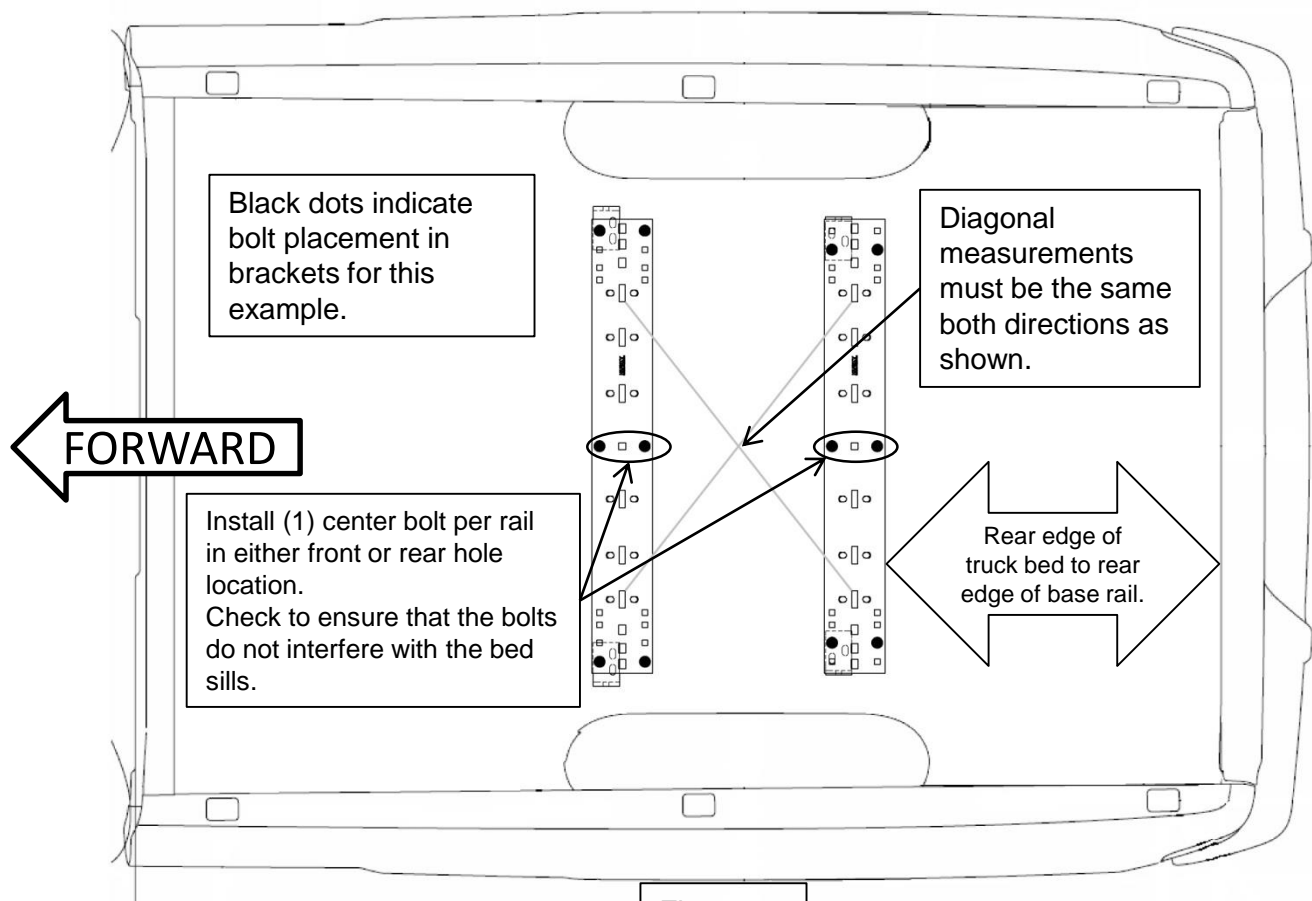

Figure 2
6. Measurements are given from Rear Edge of truck bed to rear edge of the base rail closest to the Rear Edge of truck for most vehicle applications (See Fig. 2).
7. Center hitch between fender wells and make sure rails are square. Adjust position of rails until both diagonal measurements are the same. This should allow installation of a gooseneck or other fifth wheels to these rails (See Fig. 2).
8. Drill 10 holes identified in Fig. 2. (Hole location will vary for individual vehicle applications.) Drill all holes with 3/16" drill and enlarge them with a 17/32" drill. Always use sharp drill bits. A 3/16" pilot hole will greatly speed drilling larger holes. Install 1/2" carriage bolts into holes. Install 5/16" thick slotted spacer above or below bed to fill corrugations in bed floor. **NOTE: For Toyota 2000-2006 Tundra application, part #30597 spacer kit is required. Stack (1) 3/16" and (1) 5/16" thick slotted spacer to avoid crushing of truck bed.**